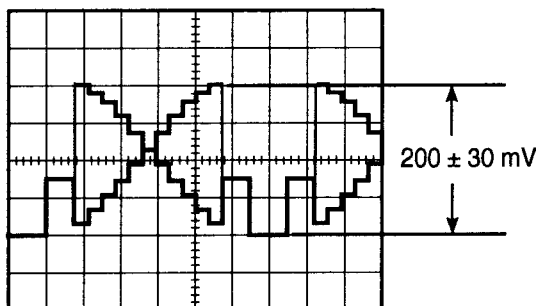

Fig. 5-23
- Adjust data with the **ARROW** keys so that the CDSOUT signal level becomes 200 ± 30 mV as shown in Fig. 5-23.